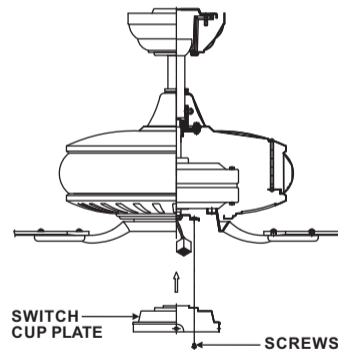

Fig 17
Step 1. Remove the screws from the motor housing, place the switch cup plate over the motor housing and align the holes. Secure in place with screws previously removed. (Fig. 17)